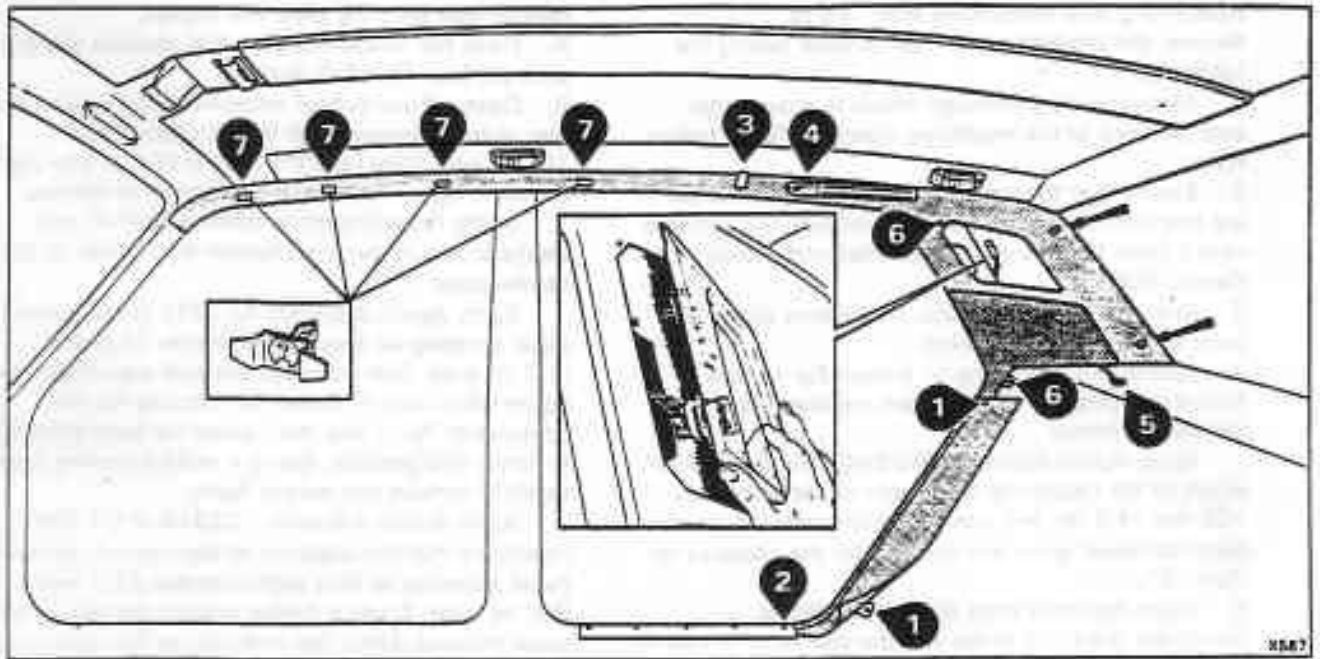

Fig. S8-4 Cantrail/quarter (one-piece) and lower 'D' post trim
13. Peel back the lower 'D' post trims and remove the securing screws (see fig. S8-4, item 1). Remove the rear screw from the rear sill finisher to enable the trim to be released (see fig. S8-4, item 2).
14. On Silver Spirit, Bentley Mulsanne, and Silver Spur cars remove the companions as follows referring to figure S8-4.
15. On cars fitted with a one-piece cantrail trim panel proceed as follows referring to figure S8-4.